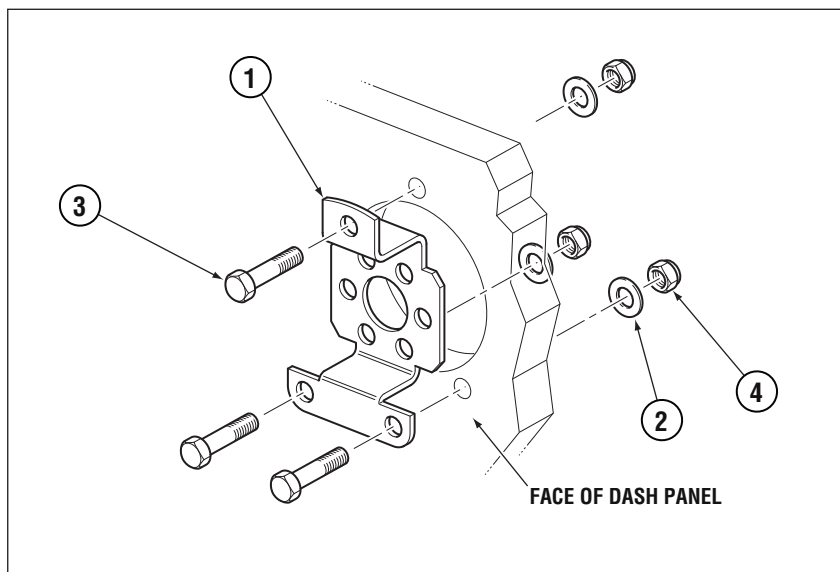

Figure 3.
- STEP 1.** Place helm mounting bracket (item 1) in position on dash as shown in figure 3. Insert hex bolts (item 3) through mounting holes in bracket and dash. Add a flat washer (item 2) to each bolt and thread a locknut (item 4) on each. Torque to 110 in-lbs minimum. DO NOT EXCEED 145 IN-LBS.